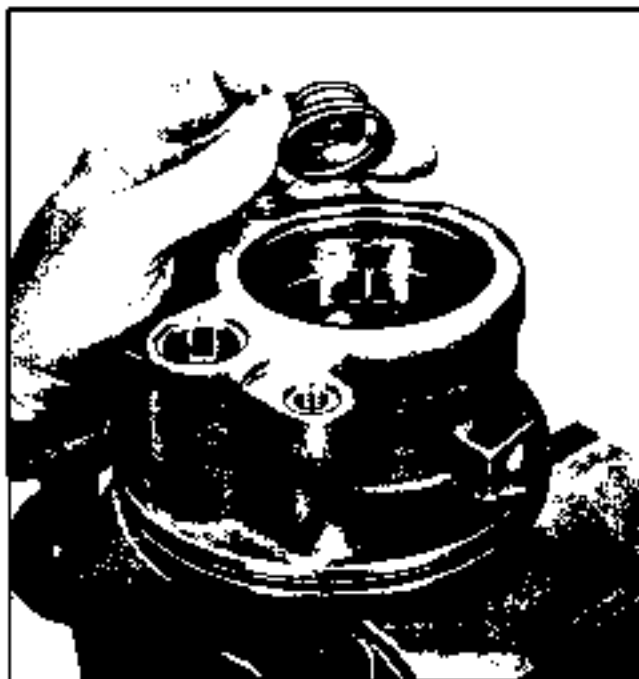

Fig. 9-97 Installing Pressure Plate Spring
9. Install pressure plate spring in center groove of pressure plate (Fig. 9-97).